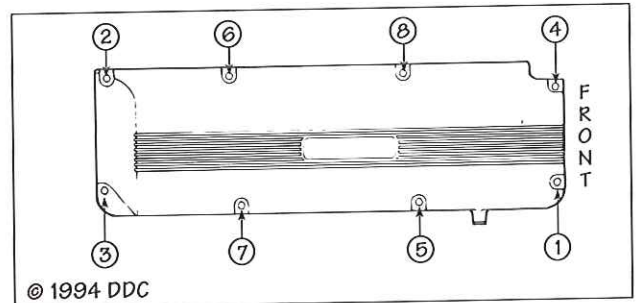

FIG. 42
6. Install the rocker cover cap to the base. Install the 8 screws that attach the cap to the base and tighten to 20 lbft (25 N·m) torque in 2 stages, using half-torque valve first. Use the torque sequence shown in Fig. 42.